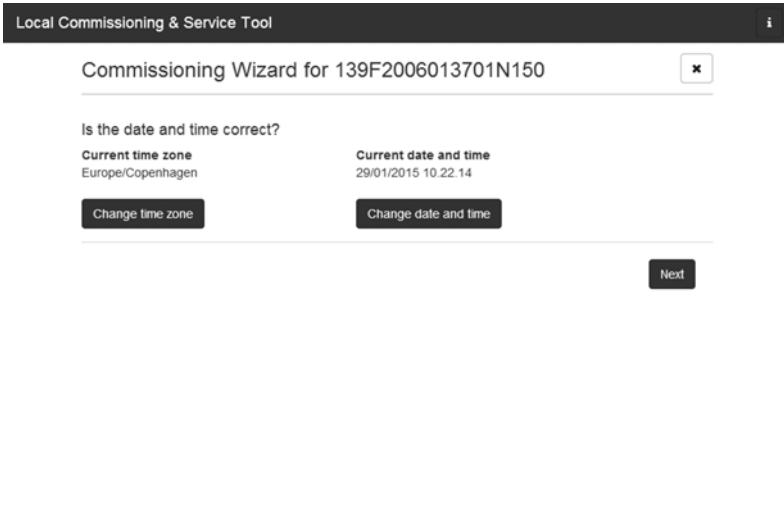

Figure 5.3 LCS tool - checking date and time
- 4. Verify that date and time are correct. If not, set date and time and continue. See figure 5.3.